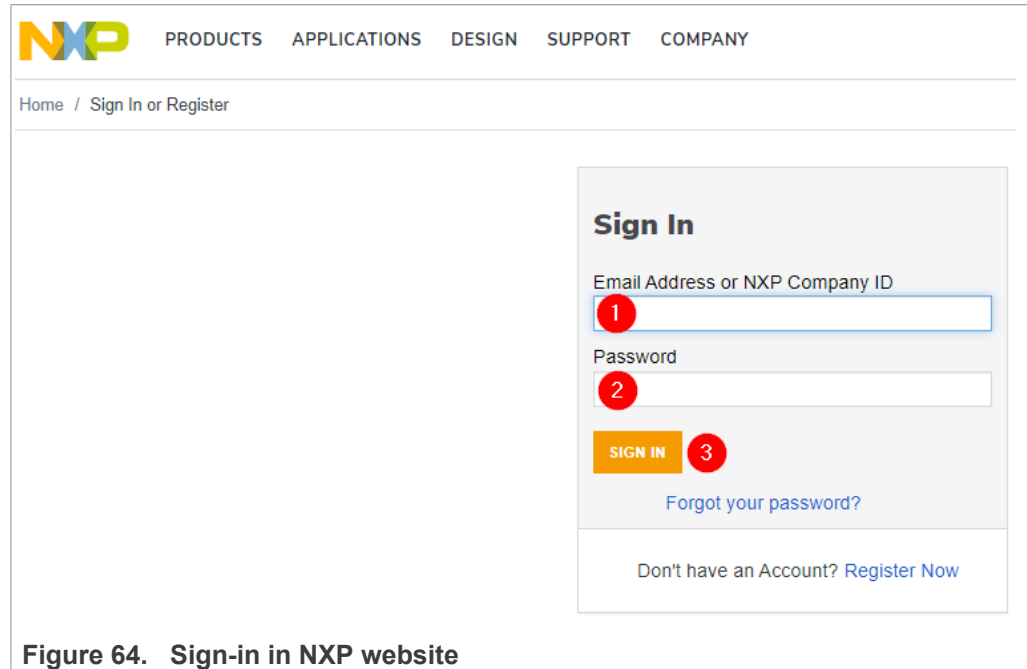

Figure 64. Sign-in in NXP website
- If you already have an account, you can directly type your (1) email address, (2) password and (3) click sign-in button as shown in Figure 64: